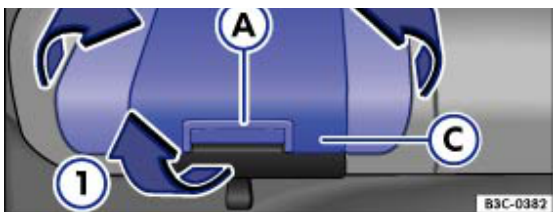

Fig. 81 Integrated child seat: folding out the seat cushion
- Using the release lever → Fig. 81 , pull the seat cushion forwards in the direction of the arrow → Fig. 81 .
- Fold both sides → Fig. 81  up in the direction of the arrows → Fig. 81 .
- Push the seat cushion → Fig. 81  to the rear in the direction of the arrows → Fig. 81  until it engages in place.